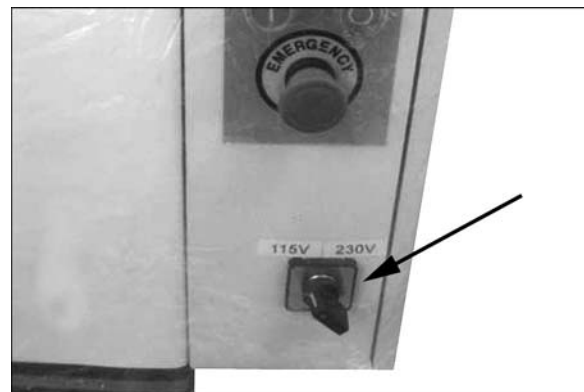

Figure 4
3. On the front of the machine, turn the rotary dial to 115V (Figure 4).